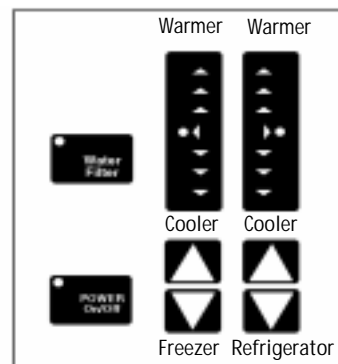

Fig. 4
4. Setting the electronic controls (Fig. 4)